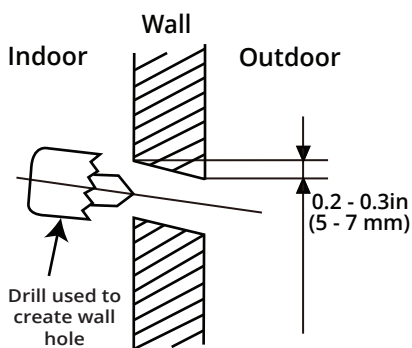

Fig. 5.3
2. Using a core drill, with a 3.54 in (90 mm) diameter, drill a hole in the wall at a slight downward angle, so that the indoor end of the hole is higher than the outdoor end of the hole, by approximately 0.2 in to 0.275 in (5 mm to 7 mm). This will ensure proper water drainage from the indoor unit (**See Fig. 5.3**).